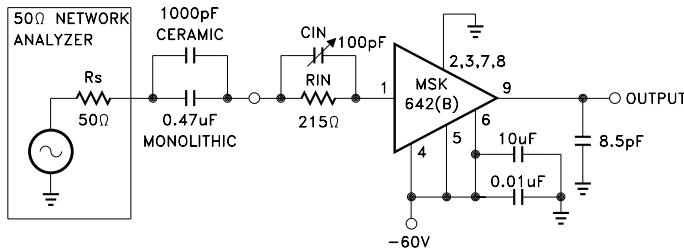

FIGURE 1
- ① $R_{IN} = 215\Omega$, $C_{IN} = 100pF$, $C_{LOAD} = 8.5pF$, $R_L = \infty$, unless otherwise specified (See Figure 1).
- ② Guaranteed by design but not tested. Typical parameters are representative of actual device performance but are for reference only.
- ③ Industrial grade devices shall be tested to subgroups 1 and 4 unless otherwise specified.
- ④ Military grade devices ('B' suffix) shall be 100% tested to subgroups 1,2,3 and 4.
- ⑤ Subgroup 5 and 6 testing available upon request.
- ⑥ Subgroup 1,4 $T_A = T_C = +25^\circ C$
The signal source in Figure 1 can be either a fast pulse generator or a network analyzer as long as the output impedance is 50 ohms. The DC level of the input should be -1.55V and all cables should be kept as short as possible. Since total load capacitance should be kept below 8.5pF, a FET probe should be used on the output.
Transimpedance amplifiers relate input current to output voltage. The MSK 642 contains an internal 3K Ω feedback resistor. This resistor converts input current to output voltage in the following manner (See Figure 1):